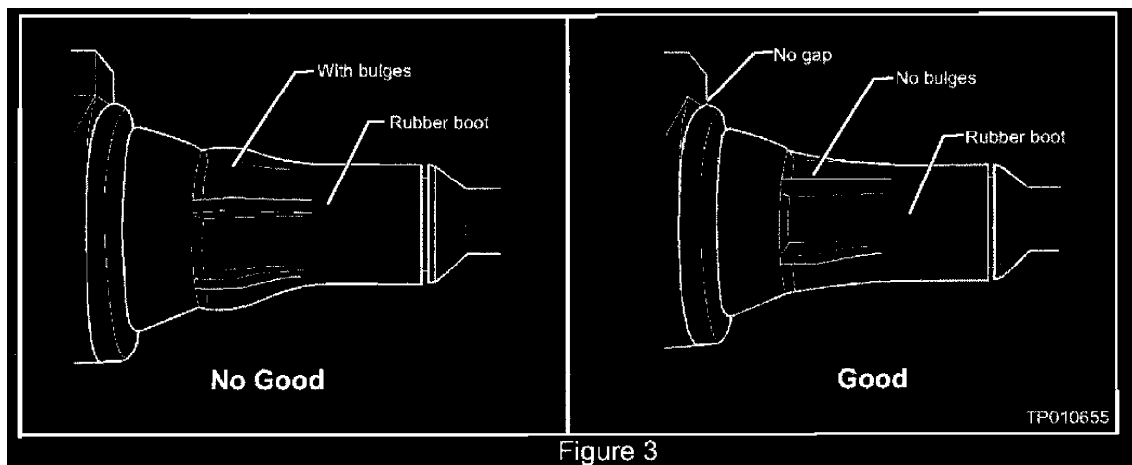

Figure 3
- ^ Ensure there are no gaps and bulges between the coil body and the rubber boot (see Figure 3).